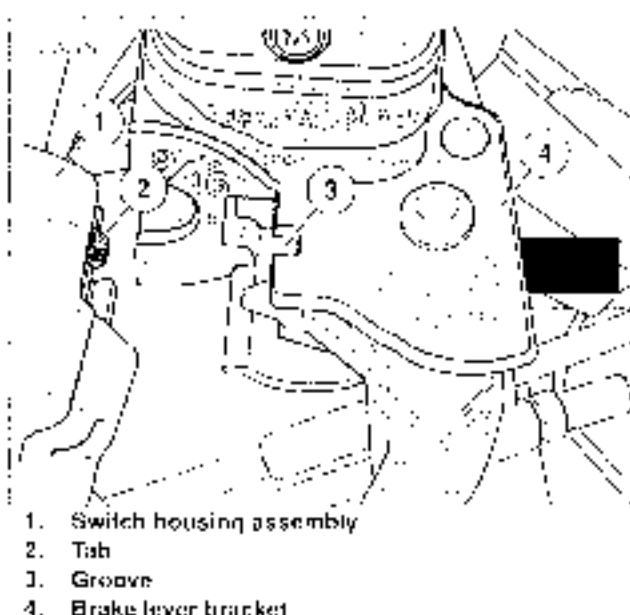

Figure 2-68. Attach Master Cylinder To Right Handlebar Switches
12. See Figure 2-68. Position the brake lever/master cylinder assembly aboard of the switch housing assembly, engaging the tab (2) on the lower switch housing (1) in the groove (3) at the top of the brake lever bracket (4).